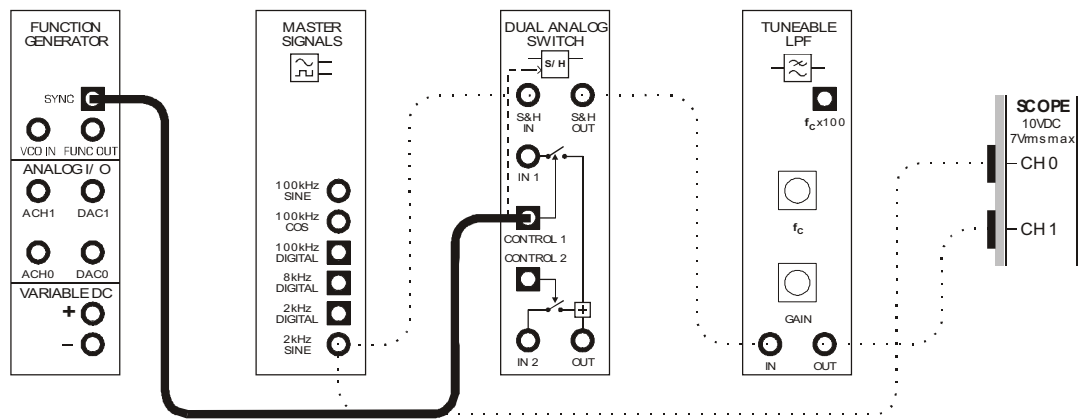

Figure 11
45. Modify the set-up as shown in Figure 11 below.